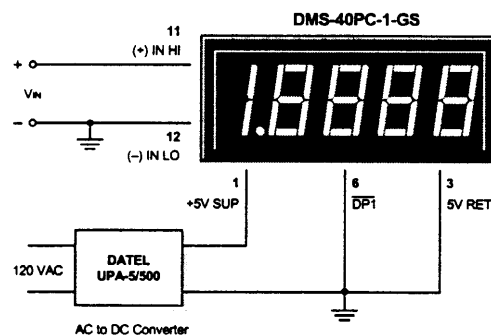

Figure 2. Single-Ended Input Configuration
- 1. Single-Ended Input Configurations:** The DMS-40PC can measure single-ended signals with either positive or negative polarities. True single-ended inputs always have one of their two terminals at the same potential as the DMS-40PC's 5V RETURN (pin 3). Single-ended inputs are usually derived from power supplies that have a common ground with the meter's +5V supply. Figure 2 shows the recommended connections to be used with this type of input. Pin 12, (–) INPUT LO, is shown directly tied to ground. This connection to ground must be a separate wire or pc-board trace originating at  $V_{in}$ 's negative terminal. This hook-up will normally eliminate display instabilities and errors caused by ground-loop currents which can occur if (–) INPUT LO is tied to ground at, or near, pin 3.